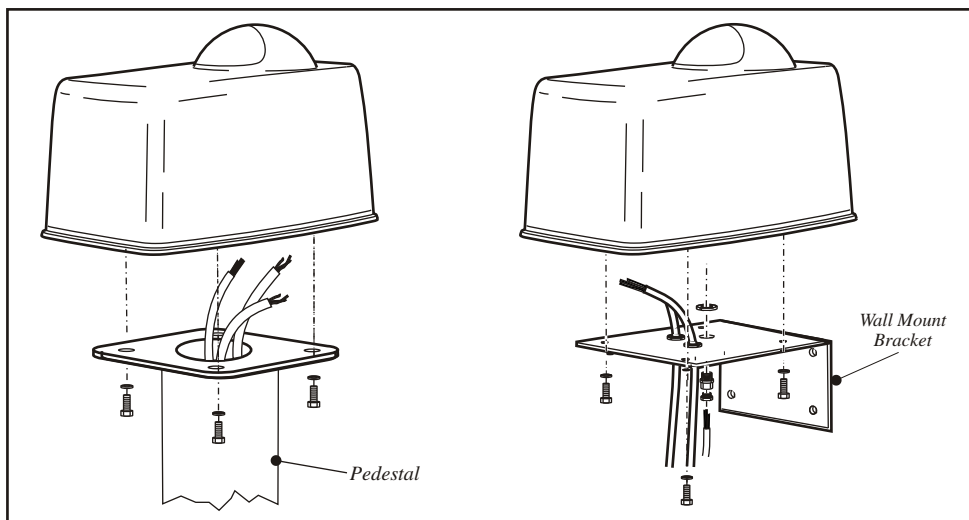

Figure 14 Secure Gearbox to Pedestal Adaptor or Wall Mount Bracket
9. Fasten the motor onto the pedestal adaptor plate or wall bracket, as shown in Fig. 14, using the M8 bolts and spring washers as supplied.